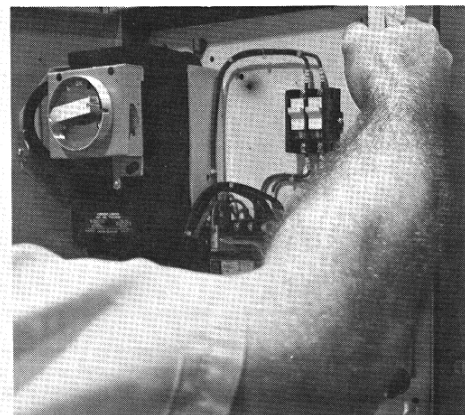

Figure 18.
6. To completely withdraw the unit from the structure, again press down on latch mechanism and pull to remove unit. (Figure 18)